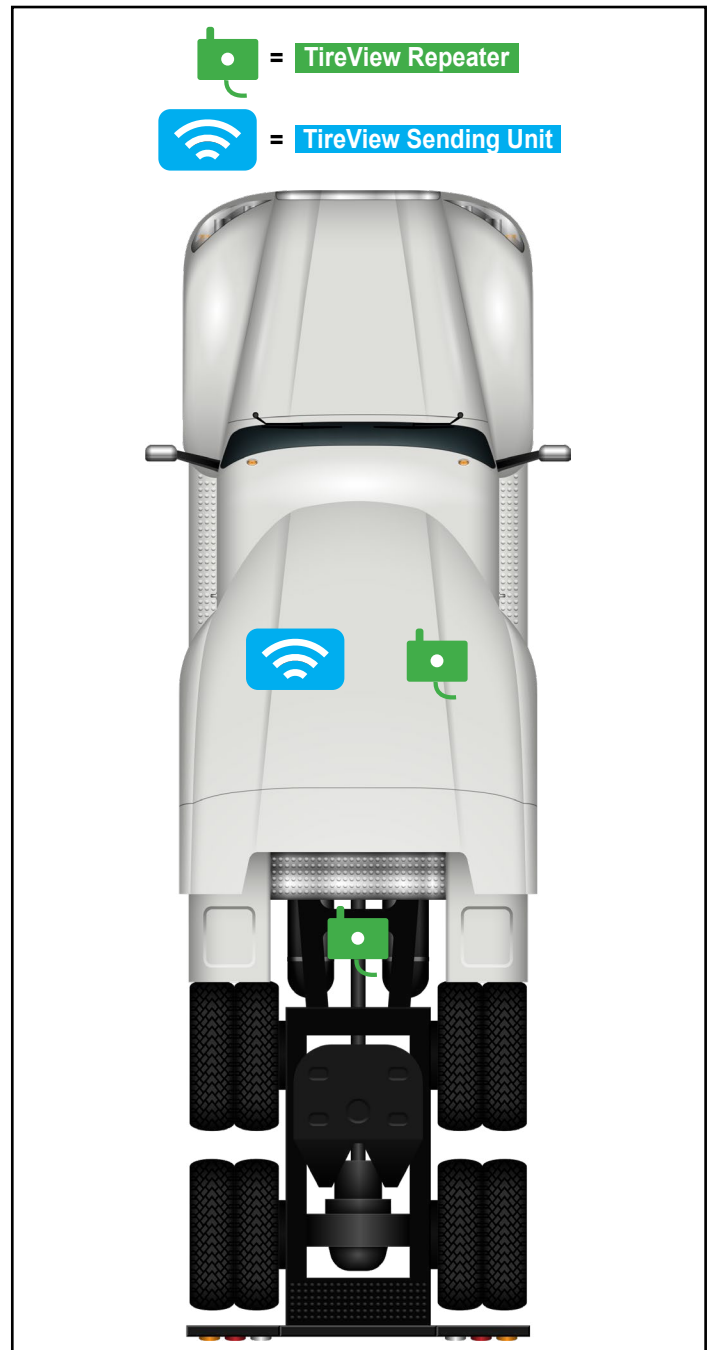

Figure 1: Sending unit and repeater location.
1. Identify suitable mounting location for the TireView LIVE (TVL) sending unit and repeater. See *Figure 1*.
**RECOMMENDED PLACEMENT:** near the first drive axle, central on the vehicle. See *Figures 1 & 3*.
**OPTIONAL PLACEMENT:** in cab, behind center console, minimum 3 feet from the Sending Unit if possible. See *Figures 1 & 2*.